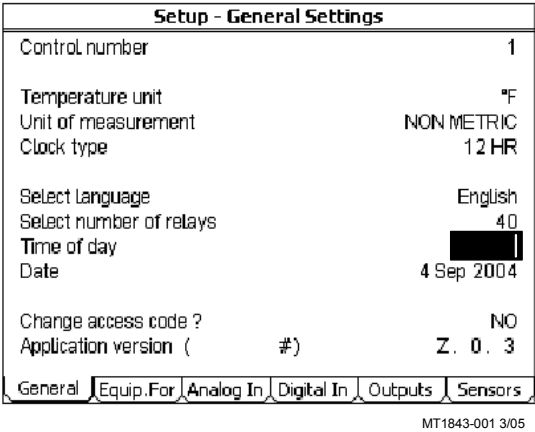

Figure 14. Changing Time of Day.
- 2. Press the **EDIT** button and use down arrow to highlight the Time of day (**Figure 14**). Using the Numeric Keypad, enter in the correct hour followed by the decimal key (.). Enter the correct minutes followed by either; am or pm (Use the number 2 on the Keypad for **am**, or the number 7 for **pm**). *The example below is setting the time to 8:12 pm.*